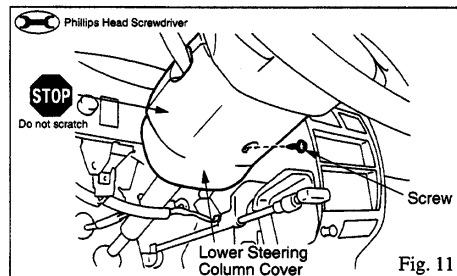

Fig. 11
- (10) Remove the lower steering column cover. (1 Screw) (Fig. 11)